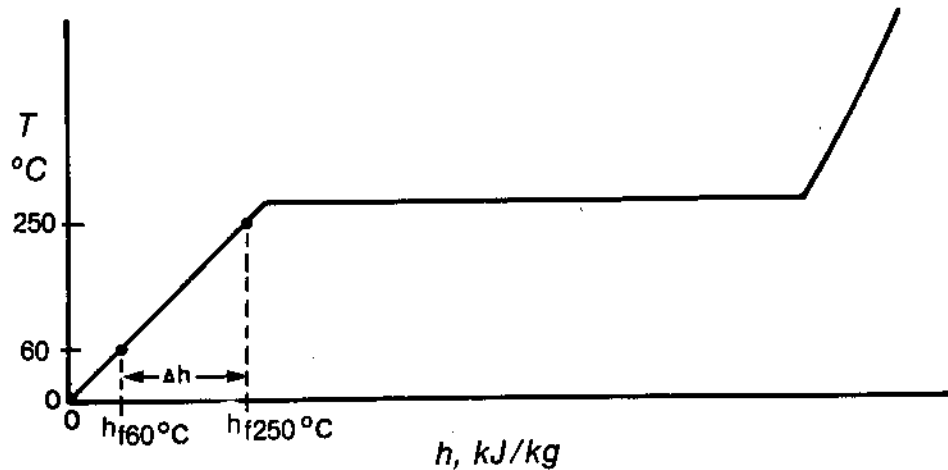

Figure 1.16
1.14) This process can be represented as shown in Figure 1.16.